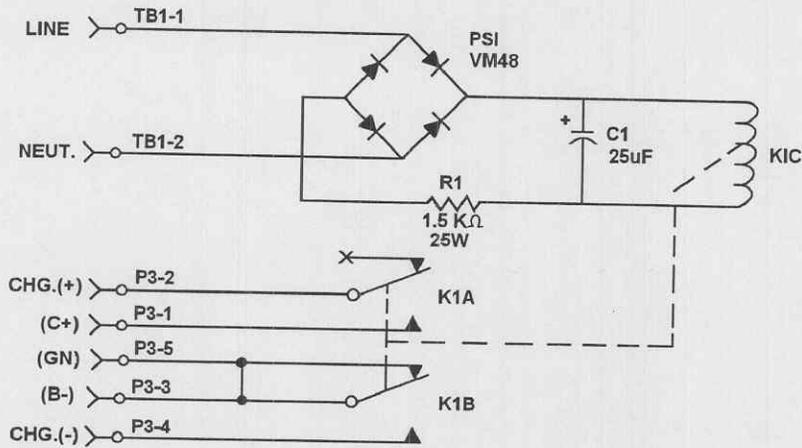
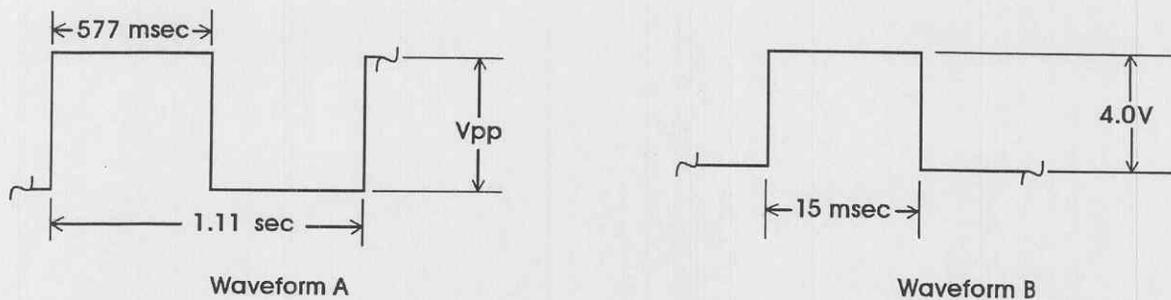
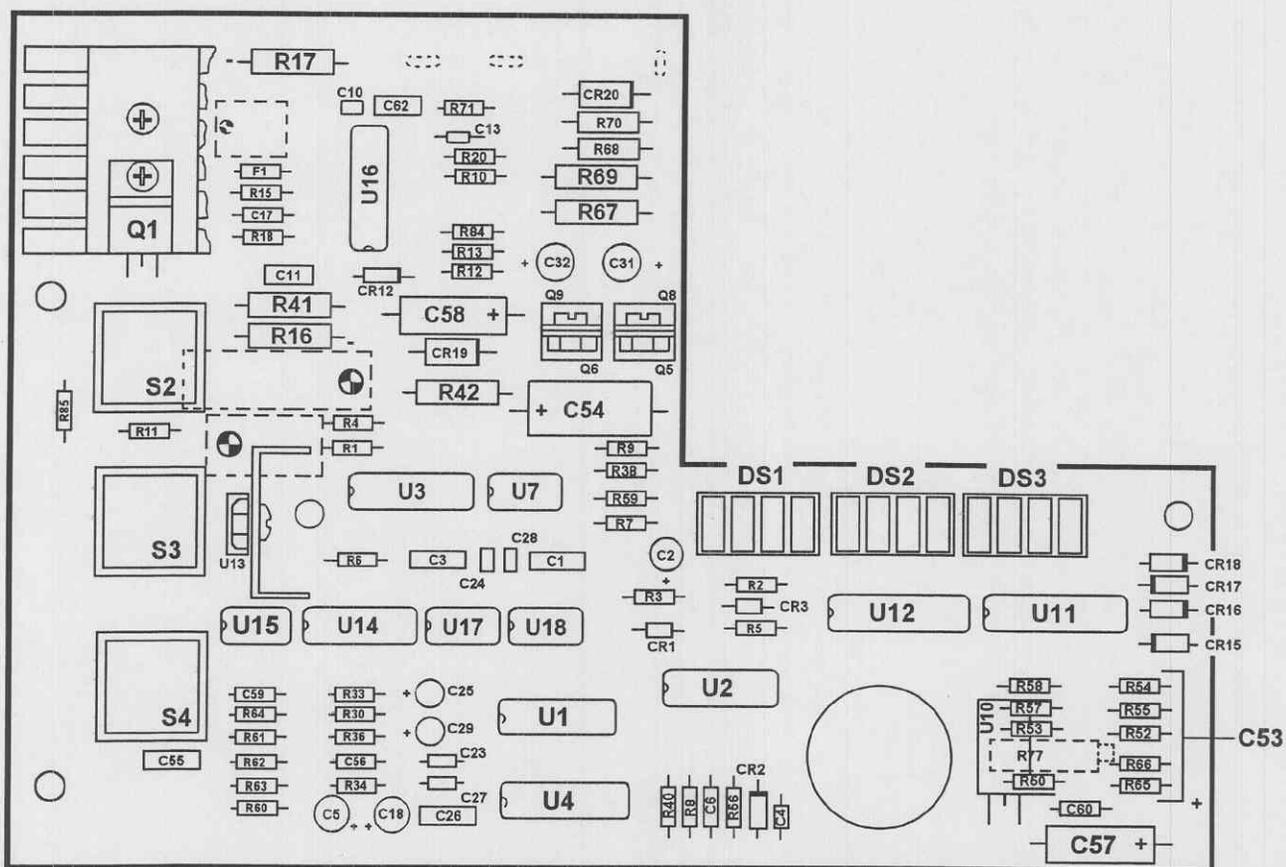

Figure 3-4. AC power supply PCB.
Figure 3-11. Test points.
Figure 3-12. Component layout - control PCB.
3-26. AC power supply PCB (fig 3-4).
- a. Test voltages and waveforms for specific operating modes are provided in figure 3-11 and table 3-9.
- (1) TP1 is ground
- (2) All voltages are VDC unless otherwise specified.
- (3) See figures 3-4 thru 3-10 for corresponding schematics.
- (4) All voltages are typical and tolerance is +/- 0.1 volts.
- (5) When handpiece is operating in the forward direction only.
- (6) When handpiece is operating in the reverse direction only.
- (7) When handpiece is operating in any mode except forward.
- (8) When handpiece is operating in any mode except reverse.
- c. A component diagram is provided in figure 3-12 to assist in locating the test points.